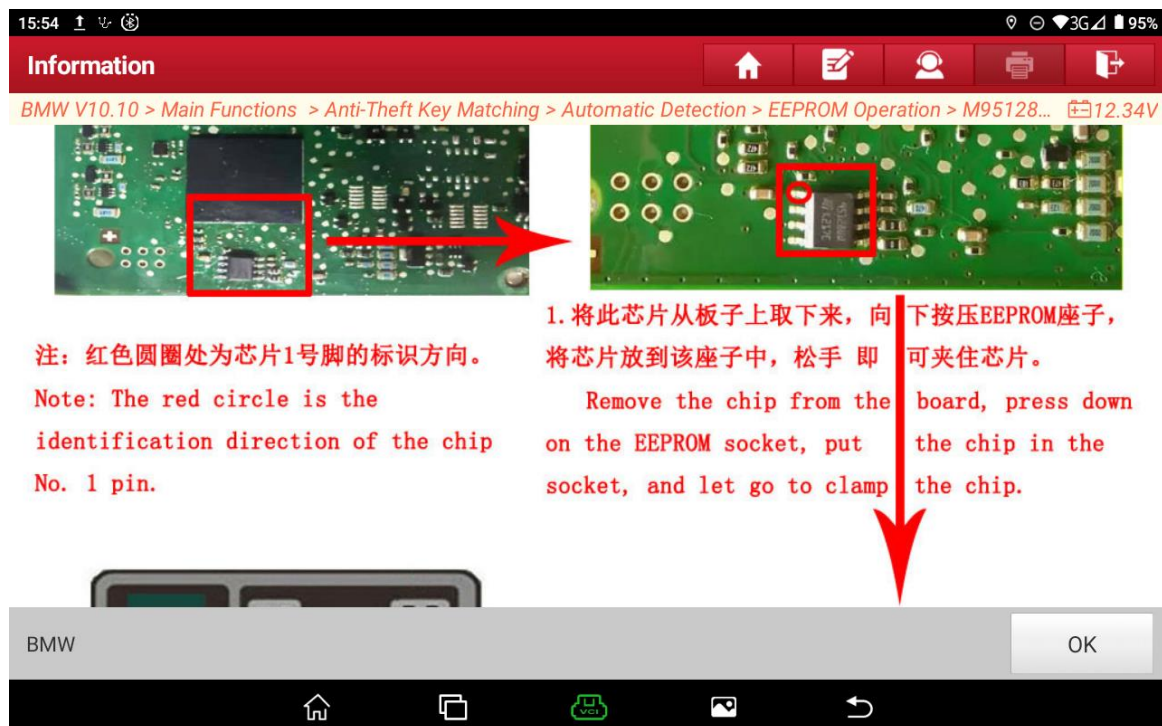

Figure 15
15. Connect according to the picture prompts, as shown in Figure 15.